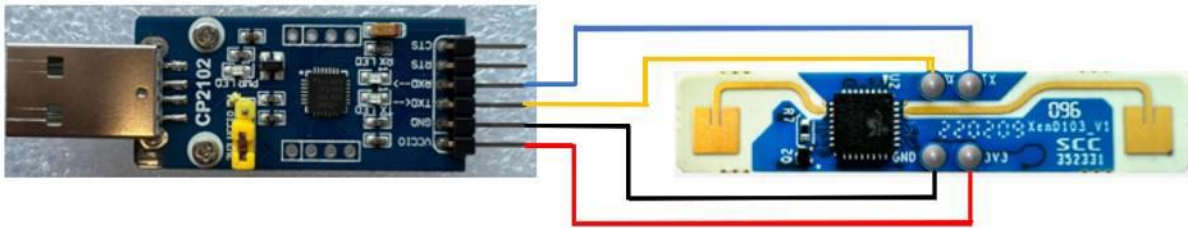

Figure 4-1 Connection of serial port tool and XenD103
Step 2: Connect the XenD103HP module with the host PC via a serial port tool, as shown in Figure 4-1;
Step 1: Connect the radar module with host PC using a USB serial port tool, as shown in Figure 4-1. Double click **ICLM_XenD103Tool.exe** and the GUI will appear as shown in Figure 4-2.